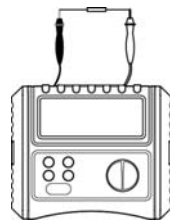

Figure 3
VIII. Testing for Continuity (See Figure 3)
- (1) Completely discharge the circuit to be tested before commencing any measurement. Ensure the circuit remains isolated from any power source during the test.
- (2) Insert red test lead/probe into red input terminal and black test lead to black input terminal.
- (3) Connect the red and black test leads/probe to the circuit under test.
- (4) Turn the rotary switch to Ω position, then press TEST button to begin. Refer to Figure 3 for details.